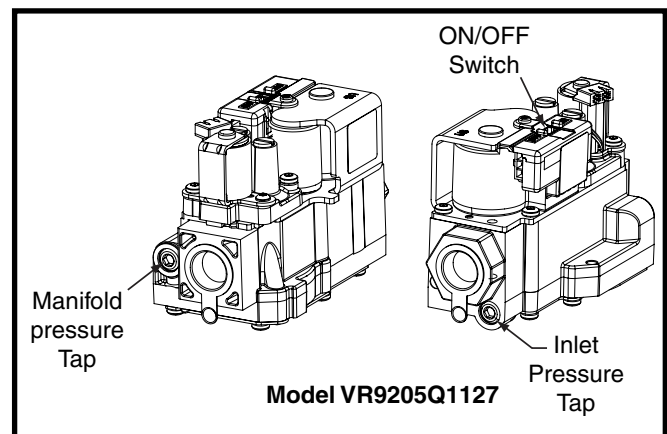

Figure 3. Inlet & Manifold Pressure Tap Locations
4. Place the gas valve ON/OFF switch/knob to the ON position. See Figure 3.
3. Using a 3/16" Allen wrench, remove the manifold pressure tap plug located on the outlet side of the gas valve. See Figure 3 (page 3).